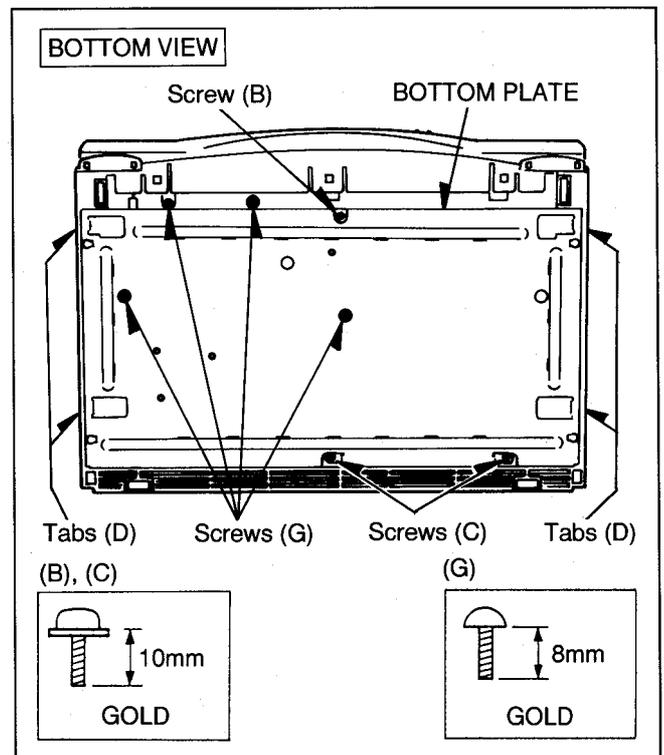

Fig. D3
Remove 3 Screws (G) [Fig. D3]
Remove 2 Screws (C) [Fig. D3]
- Remove 2 Screws (C) [Fig. D3]
- Remove 3 Screws (H)
- Remove Screw (I)
- Unlock Tab (J) and L/C PACK HOLDER
- Unlock 7 Tabs (K)